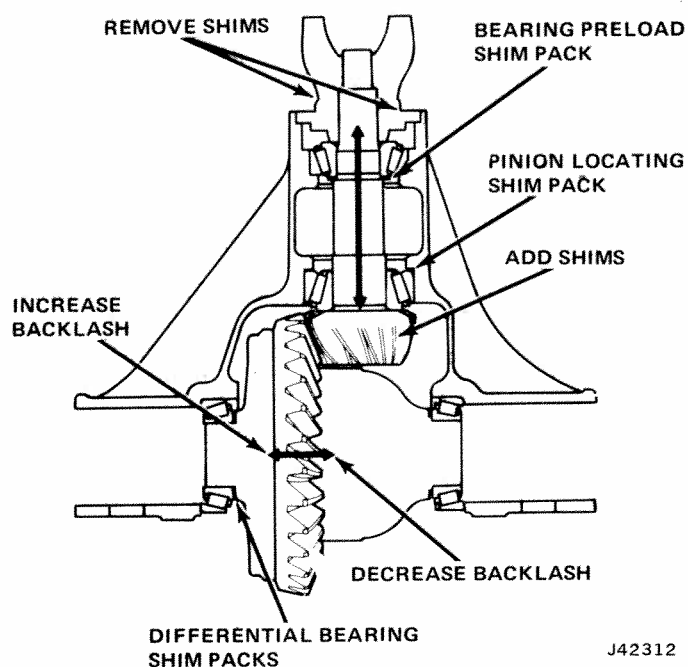

Fig. 10-25 Differential Shim Pack Locations
Adjustment of the pinion is accomplished by the use of shims placed between the inner bearing cup and the axle housing and between the pinion shaft shoulder and the outer bearing. The shims behind the inner bearing cup adjust the position of pinion in relation to the ring gear. The shims behind the outer bearing adjust the pinion inner and outer bearing preload (fig. 10-25).
(5) Add or remove shims between pinion outer bearing and pinion shaft to obtain correct torque reading (fig. 10-25).